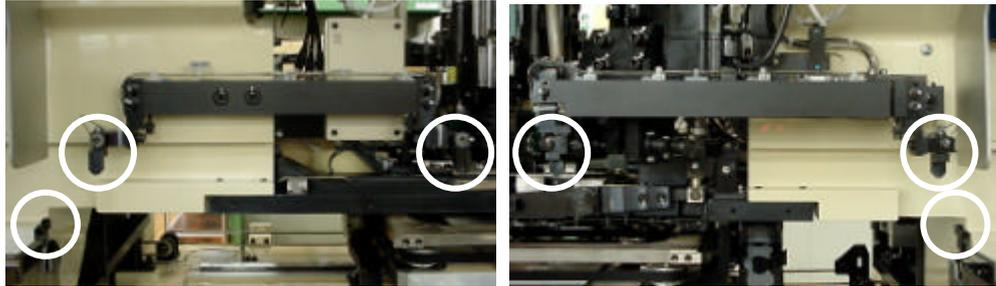

Figure 4
1. After installation, verify that there is no interference between the pallet cover and the 6 sensors as indicated in Fig. 4.